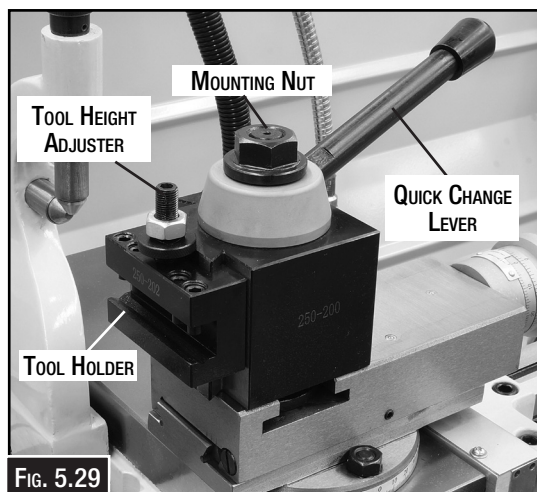

FIG. 5.29
2. Move the quick-change lever (Fig. 5.29) to recess the lock piston and provide an unobstructed slot for the tool holder to slide down into.